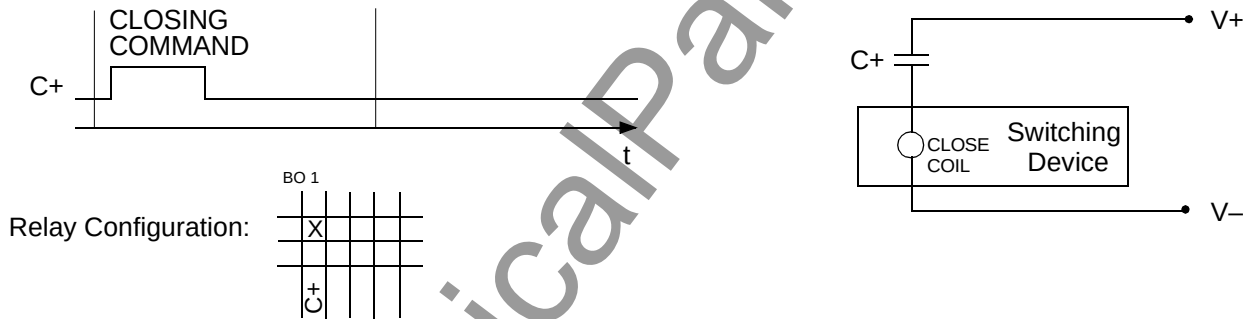

Figure 5-4 Single Command with Single Output
- For each device to be controlled, determine if switching is to be done with 1 contact, $1\frac{1}{2}$ contacts (single contact and common), or 2 contacts; with a single or double command; and with or without feedback signals. See Table 5-1 and Figures 5-4 to 5-12. The information to be processed and the command type are determined with these decisions.
- The TRIP (OFF)–command is always configured prior to the associated CLOSE (ON)–command;
Table 5-1 shows the most important command types. They are made available as options in the Configuration Matrix for the SIPROTEC® device (see also “Binary Outputs for Switching Devices” in Sub-section 5.2.4). All double commands, with and without feedback indications, are also available as transformer step commands. The following Figures 5-4 through 5-9 show time diagrams, control settings, and the sequence of relay positioning in the configuration matrix for frequently used command types.
For Figures 5-4 through 5-9, the following abbreviations apply: